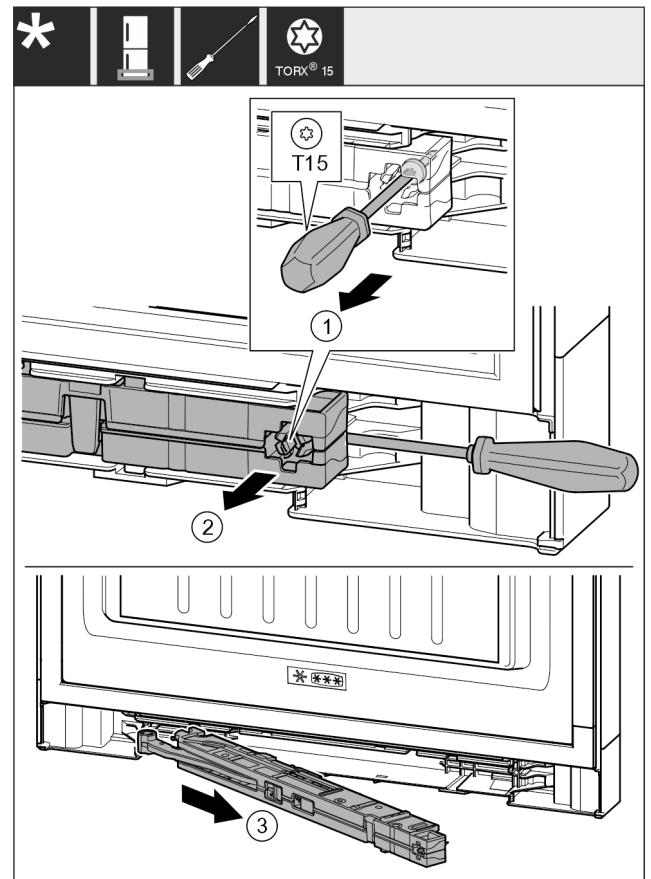

Fig. 18
- Undo the soft stop mechanism screw with a T15 screwdriver approx. 14 mm. Fig. 18 (1)
- Insert the screwdriver on the handle side behind the soft stop mechanism. Turn the unit forwards. Fig. 18 (2)
- Pull out the unit. Fig. 18 (3)